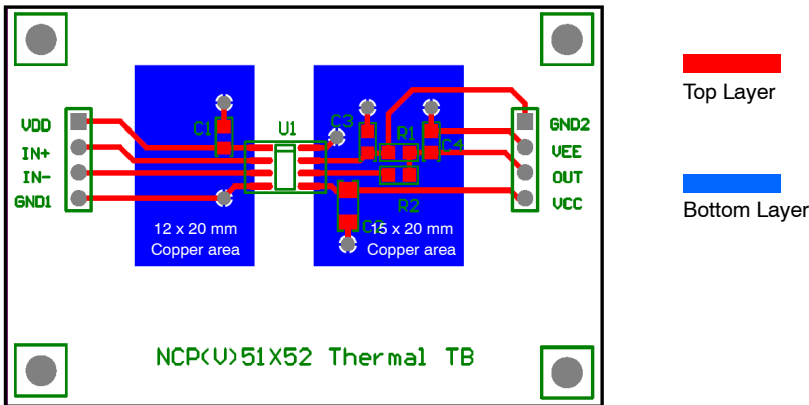

Figure 5. Reference Layout for the Type–B
- As specified for a reference layout shown in Figure 5. The DUT is mounted on a 60 x 40 x 1.6 mm FR4 substrate with an additional heat spreading copper of 240 mm²/300 mm² (Primary/Secondary). The copper thickness is 1oz and test conditions is under natural convection or zero air flow.